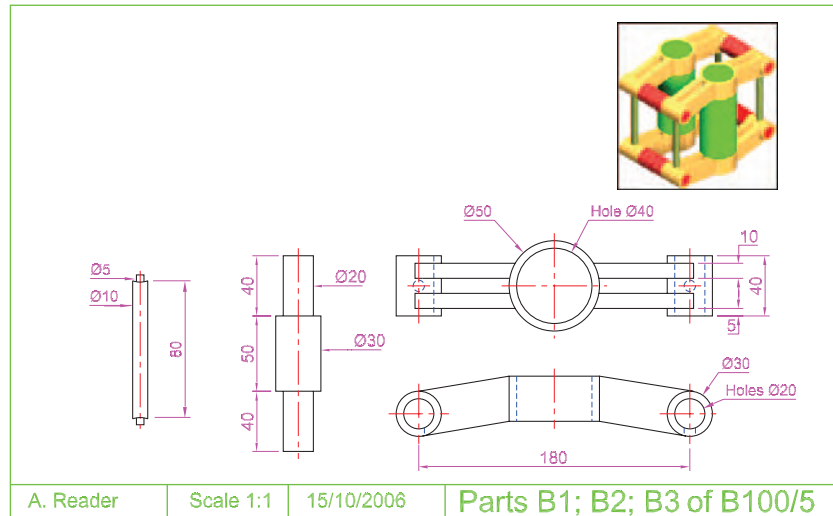

Fig. 19.5 Example – Raster image in a drawing
Example – Raster image in a drawing (Fig. 19.5)
Click the **OK** button of the dialog and a series of prompts appears at the command line requesting position and scale of the image. Enter appropriate responses to these prompts and the image appears in position in the orthographic drawing (Fig. 19.5).
2. Place the image in position in the drawing area. In Fig. 19.5 the orthographic projections have been placed within a margin and a title block has been added.
1. Open the orthographic drawing with its raster image (Fig. 19.5).